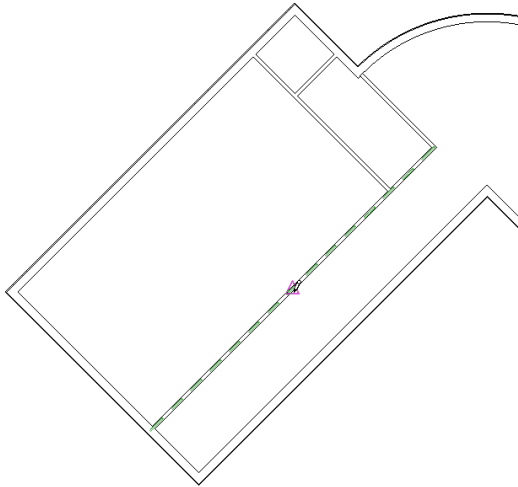

Figure 2-66 Starting the interior wall from the midpoint of the first interior wall
10. To create the next wall, bring the cursor close to the midpoint of the first interior wall until the midpoint object snap appears, as shown in Figure 2-66. Click to start the wall.